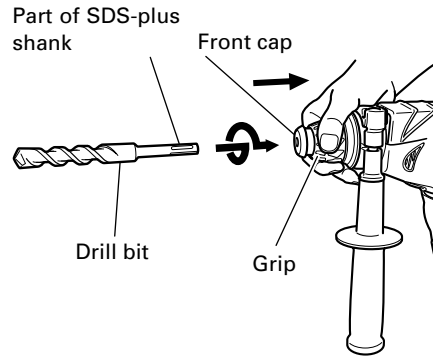
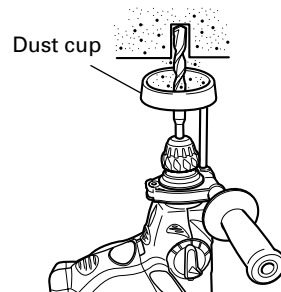

Fig. 2
Fig. 3
6. Mounting the drill bit (Fig. 2)
- (1) Clean the shank portion of the drill bit.
- (2) To attach a drill bit (SDS-plus shank), fully pull the grip in the direction of the arrow as shown in Fig. 2 and insert the drill bit as far as it will go while manually turning.
- (3) By releasing the grip, the drill bit will be secured.
- (4) To remove the drill bit, fully pull the grip in the direction of the arrow and pull out the drill bit.
7. Installation of dust cup (Optional accessories) (Fig. 3)
Use the dust cup by attaching to the drill bit as shown in Fig. 3.